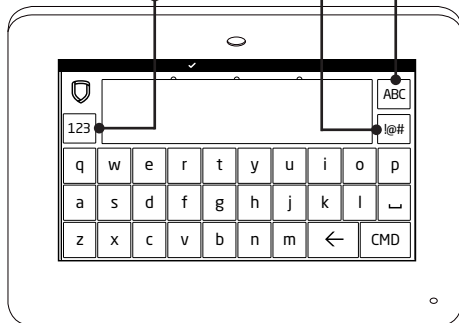

**Figure 3: Number Pad**
3. Identify the **Select Area** for the character and press that select area on the keypad. Press that select area again for the lowercase letter. See Figure 3.